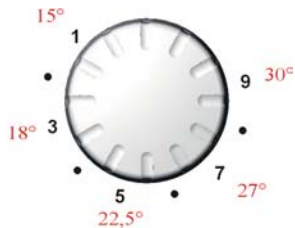

Figure 3 : Scale of the temp knob 2 of Atlantis
2. Turn the knob 2 to choose the desired temperature. In the knob 2 you see the numbers of the scale. The range of the temperature is 15°C to 30°C; number 1 corresponds about 15°C and number 9 corresponds about 30°C. As the figure 3 illustrates, the scale of the knob 2 is linear. Use this scale to set the desirable temperature.